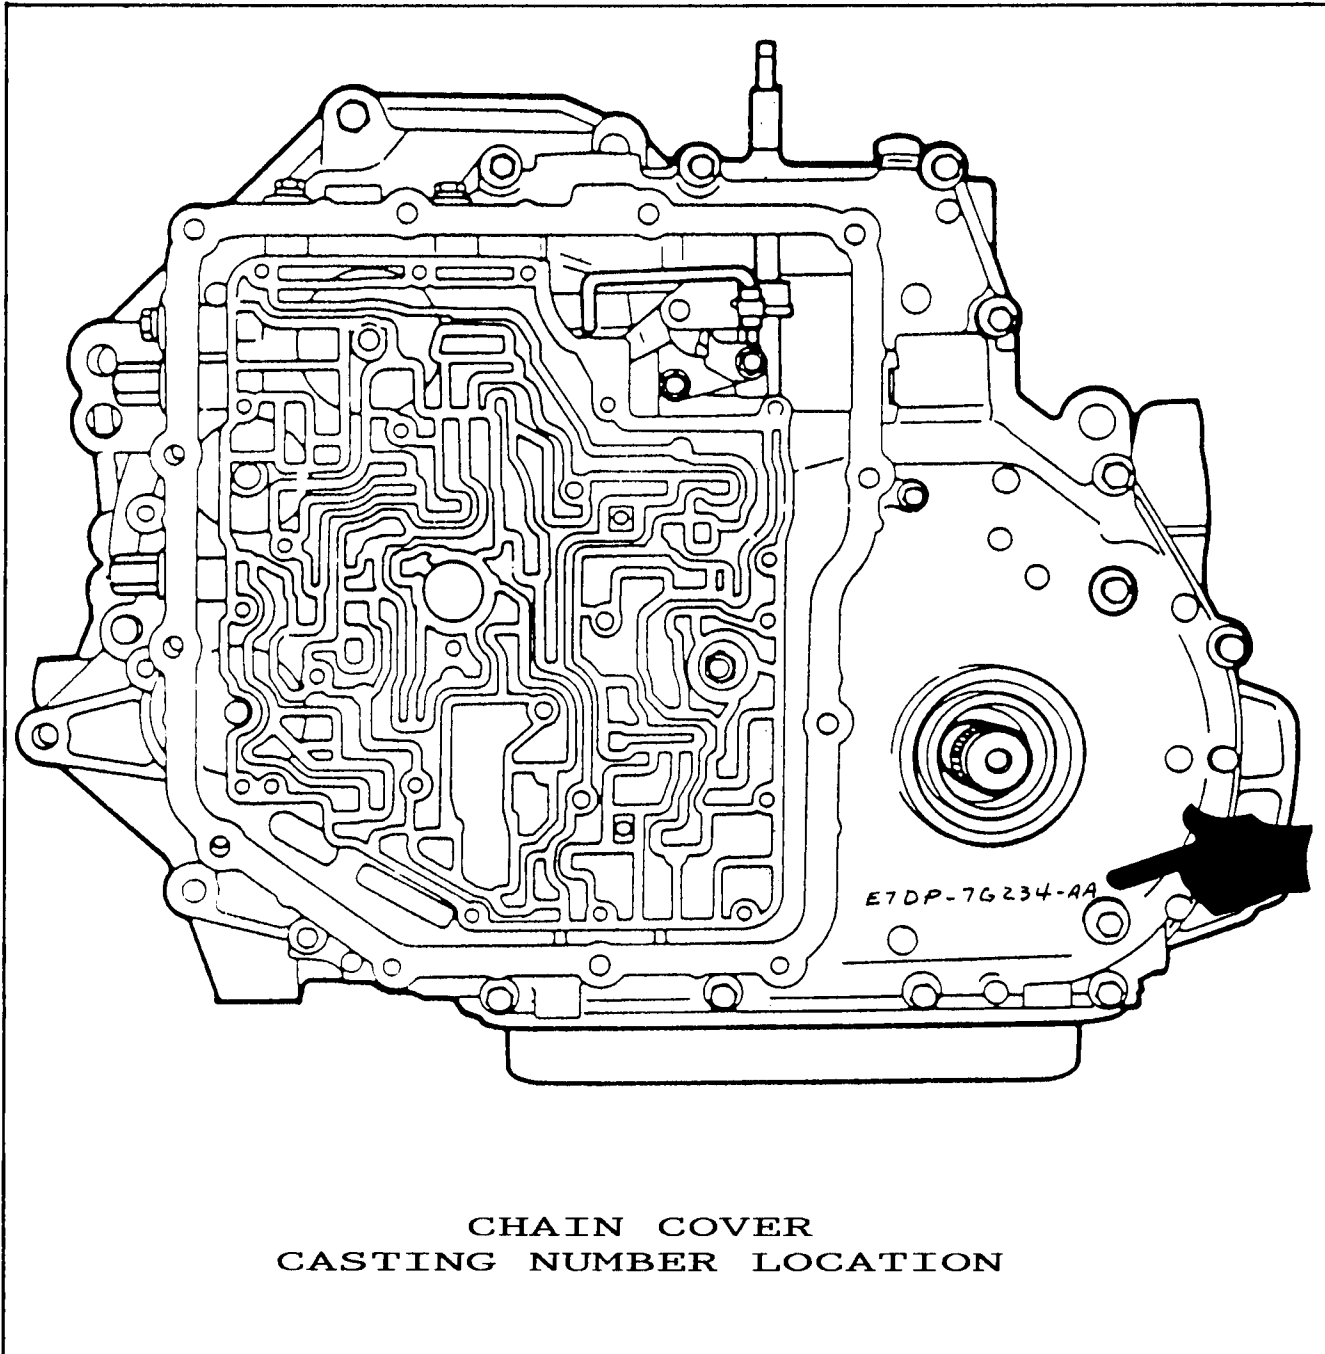

Figure 3
- (7) CHAIN COVER - Must be identified by the casting number located below the axle seal as shown in Figure 3, and can be identified as follows: